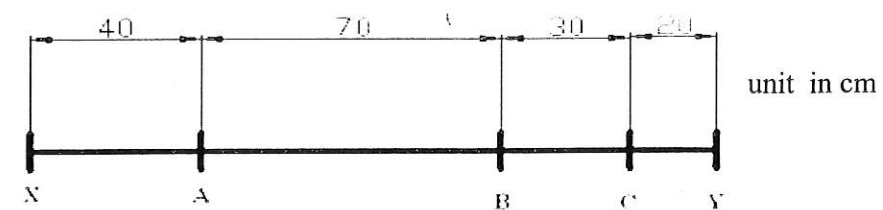

Figure 3
- a) A rotating shaft carrying three masses A, B and C of 10 kg, 16 kg, 22 kg and each mass has a radius of rotation of 70mm, 120mm and 100mm respectively from the axis of rotation O. The arrangement of masses are shown in Figure 3. This system will be balanced by placing 2 masses on the X and Y axis. The radius of rotation of the two masses is 8cm. The angle between AOB and BOC is 130°. By choosing plane X as a reference: